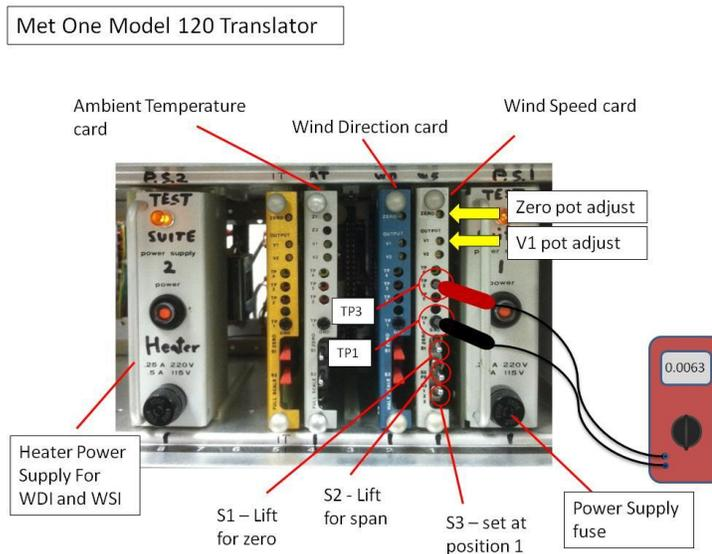

Figure 2. Translator
5. Turn on the multi-meter (MM) and plug into the WS card TP1 and TP3 ports (Figure 2). Ensure the meter is in the voltage mode and showing four positions behind the decimal. Follow the form as shown (Figure 13) to get voltage and speed readings for each calibration point.
1. Connect the MM to the WS card TP1 and TP3 ports (Figure 2).